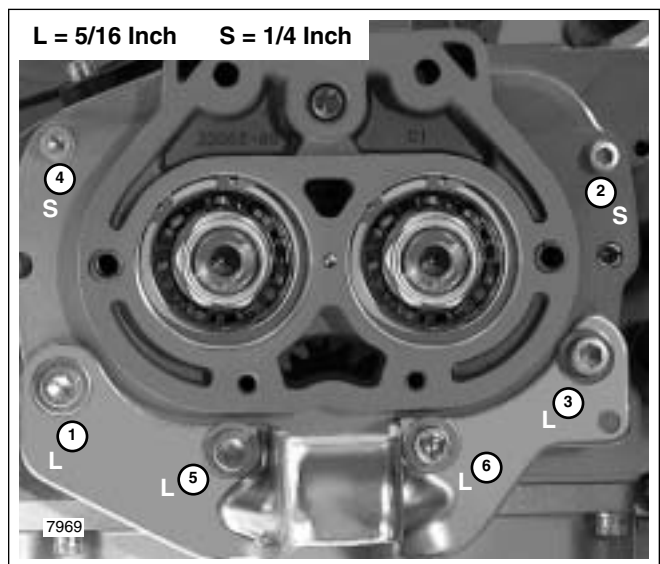

Figure 7-40. Side Door Screw Size and Torque Sequence
4. Resetting the torque wrench as necessary, tighten the four 5/16 inch screws to 13-16 ft-lbs (18-22 Nm) and the two 1/4 inch screws to 84-108 **in-lbs** (9-12 Nm) in the sequence shown in Figure 7-40.